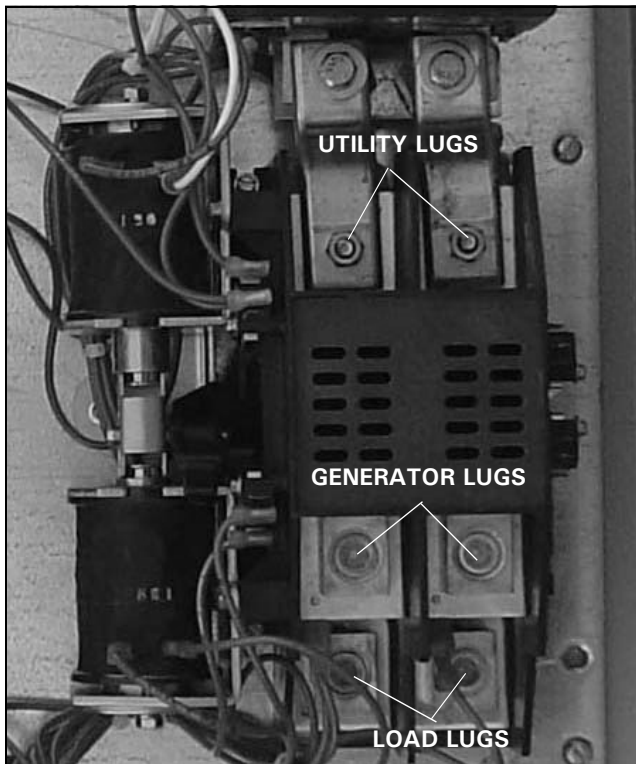
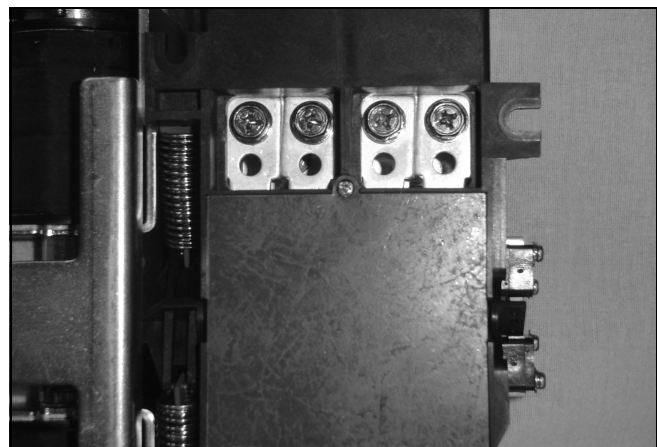

Figure 51. Replacing the 200 A Lug - Lug Location
Figure 53. Replacing the 200 A Lugs
Step 5: Remove the four (4) screws securing the contactor to the base plate using a blade screwdriver or 0.25 in. socket or nut driver.
Step 6: Remove the load lugs first by removing the four (4) Phillips screws from the back of the contactor using a Phillips screwdriver. The load bus extension and load lugs can now be removed by sliding it away from the contactor (see Figure 53).
Step 8: Next, insert a blade screwdriver or 5/16 in. socket or nut driver up through the load lug terminal hole and remove the hardware securing the two (2) generator lugs (see Figure 53). Remove the generator lugs.
Step 10: Place the new utility lugs on the utility bus so the anti-turn protrusions fit in the holes (see Figure 51). Once the lugs are in place, secure them to the utility bus using one (1) screw and one (1) washer supplied. Repeat the process of the second utility lug. Ensure that no gaps are present between the lugs and bus.
Step 11: Place the new generator lugs on the generator bus so the anti-turn protrusions fit in the holes (see Figure 51). Once the lugs are in place, secure them to the generator bus using one (1) screw and one (1) washer supplied. Repeat the process of the second generator lug. Ensure that no gaps are present between the lugs and bus.
Step 12: Secure each load lug to the detached load bus using one (1) screw and one (1) washer supplied.
Step 13: Slide the completed load bus extension back into the contactor and secure each extension using the four (4) Phillips screws (see Figure 53).